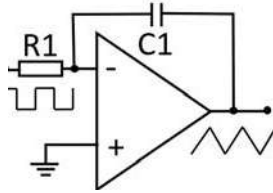

Figure 7. The integrator.
6. The *integrator* op-amp performs integration with respect to time. In Figure 7, the output is proportional to the input voltage integrated over time governed by the values of R1 and C1.